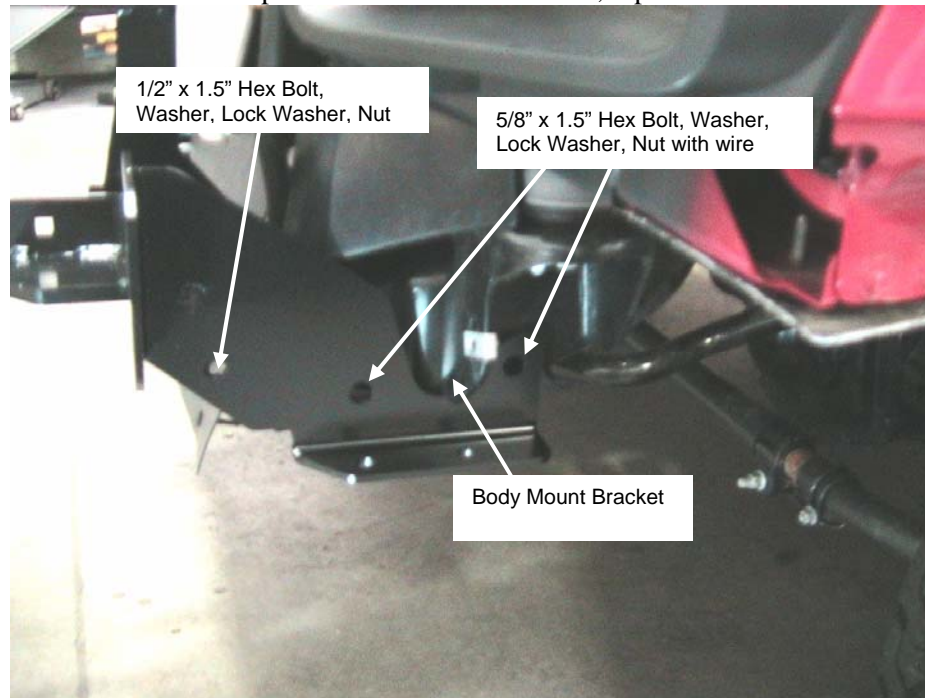

Figure 1 Placement of the Frame Bracket (Driver Side)
1. Install the frame bracket on the passenger side frame by setting the bracket on the frame and tilting it back to allow the rear part of the bracket to slide past the body mount bracket. It may be necessary to lightly tap the frame bracket into place. Be very careful not to damage any vehicle parts while installing the brackets. Intercoolers and hoses are close to the brackets so care should be taken not to damage, kink, or cut the hoses during installation. Once the frame bracket is in place and holes are lined up with the holes in the frame, repeat for driver side frame. (See figure 1.)
2. Install fasteners as shown in Figure A and Figure 1. Do not tighten any fasteners until instructed to do so.